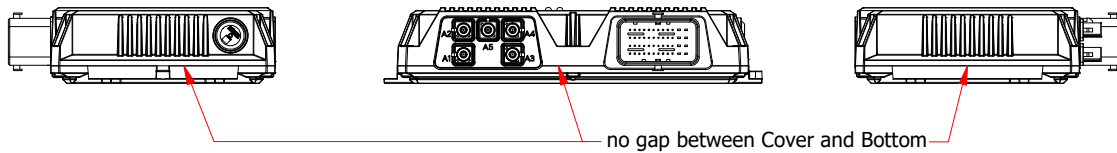

Figure 8
- 4.2 Check if the enclosure is fully closed -> no gap between the bottom an the cover (Figure 8)